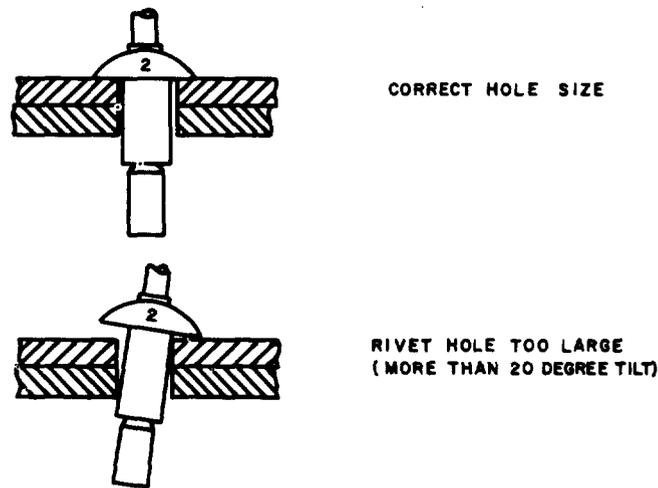

Fig. 1—Rivet Placement
**Requirement:** The rivet should not tilt more than 20 degrees from the vertical. See Fig. 1.